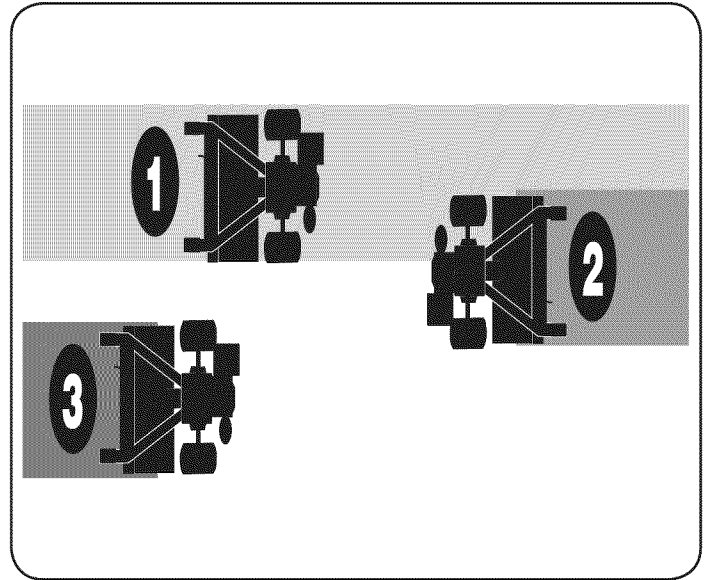

Figure 20
- If the garden size will not permit lengthwise and then crosswise tilling, then overlap the first passes by one-half a tiller width, followed by successive passes at one-quarter width. See Figure 20.